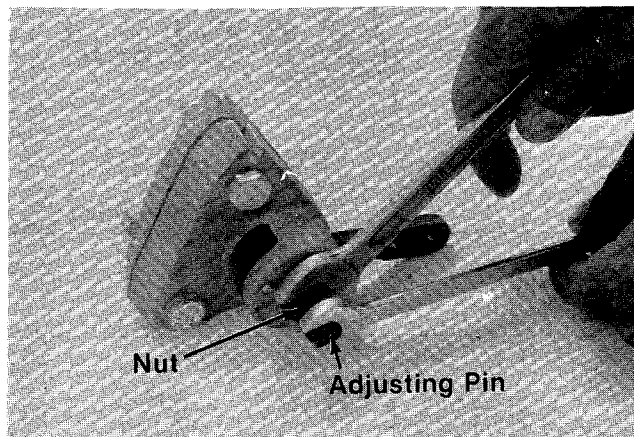

FIGURE 32.
- A. Loosen the nut on the disc brake. See figure 32.